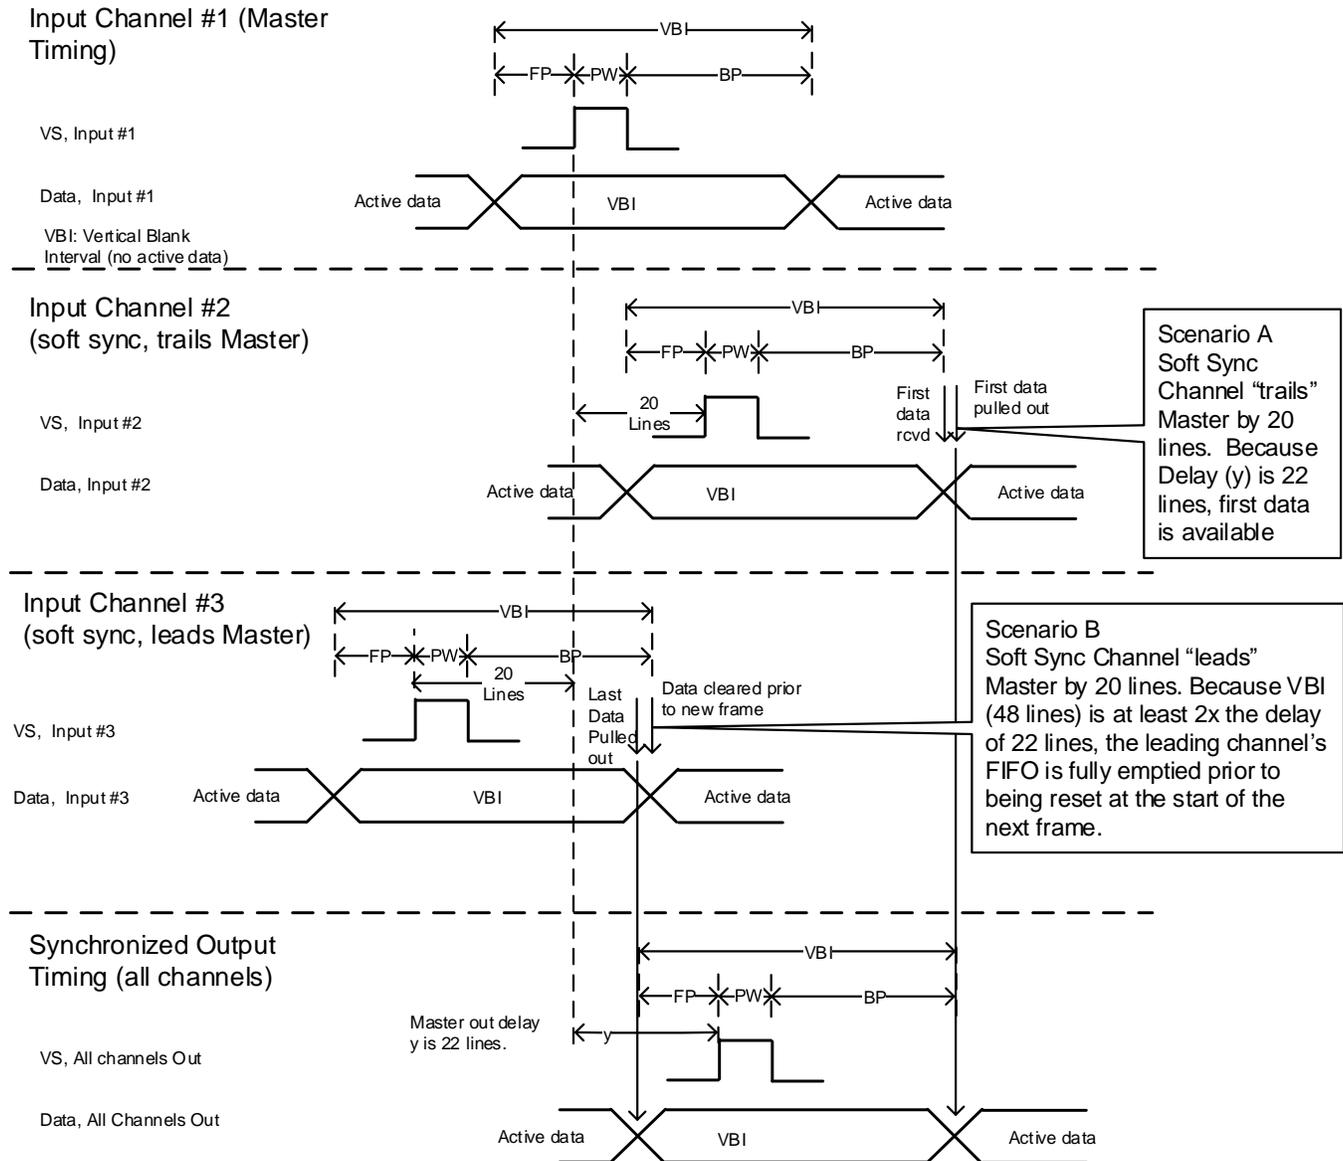

Figure 2 Timing Constraints for Sync4K
Scenario A: Because soft-synced channels tend to vary +/- x lines from the master timing, the programmed line delay y must be greater than x so that the new pixel data in a “trailing” slave channel has arrived at FIFO inputs prior to outputting that pixel data from the FIFO. See “Scenario A” in Figure 2.
Scenario B: The Vertical Blanking Interval (VBI) must be greater than 2y. This allows sufficient time for the “leading” slave channel's pixel data to be fully emptied of the previous frame, prior to clearing the FIFO at the start of a new incoming frame. See “Scenario B” in Figure 2.
Thus up to 52 lines can be stored. In Figure 2, a synchronizing channel that leads the master by 20 lines and then has an additional 22 lines of delay, will need 42 lines of storage. This is within the constraint of 52 lines.
Design item 2: In Figure 2, we see that the VBI (48 lines) is long enough ($> 2y$) such that all data from the previous frame is pulled out prior to the clearing function at the start of a new frame. Standard UHD has a VBI = 90 lines, more than sufficient to meet this constraint.